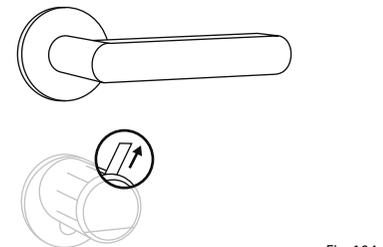

Fig. 104
- 7 If you have not already done so, remove the battery protection strip from the battery compartment on the inside knob (Fig. 104).